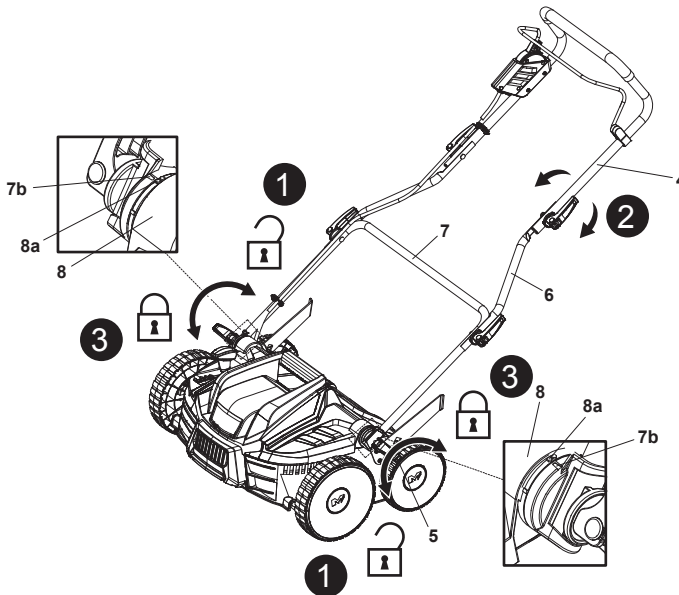

Fig. 11
1. Unfold and loosen the clamp levers (5) anticlockwise on both sides of the lower handle bar (7), but do not remove them (Fig. 11, step 1).
2. Hold and swing the handle assembly gently to the desired position by aligning the indicator (7b) with the indication line (8a) of handle support (8) (Fig. 11, step 2). Ensure the handle assembly is assembled at the same height level on both sides.
3. Secure the handle assembly by folding up the clamp lever (5) towards the lower handle bar (7). If clamp lever (5) cannot be folded, loosen it and fold again. If it is too loose, tighten it by turning the clamp lever (5) clockwise (Fig. 11, step 3).